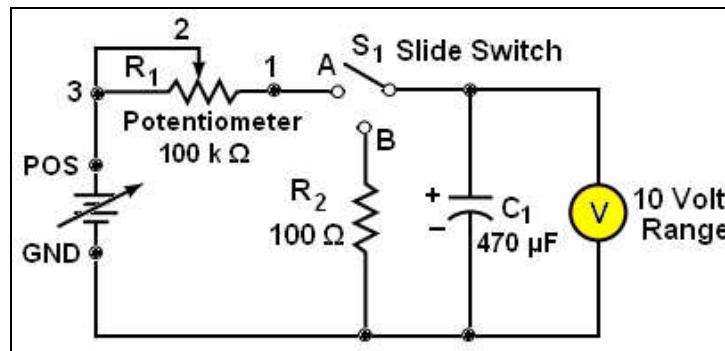

Fig. 1-2 Step 4
4. Add the capacitor to the circuit observing carefully its polarity (Fig. 1-2)
5. Place the switch in position B (Fig. 1-2). The voltmeter should now read 0 volts.
15. Replace the 47 μF capacitor with the 470 μF capacitor. The circuit should now be in the original condition shown in Fig. 1-2.
20. Remove power from the circuit in Fig. 1-2. Connect the Ohmmeter between pins 1 and 2 of the 100K Ohm potentiometer. Adjust the potentiometer until the Ohmmeter reads exactly 20K Ohms.